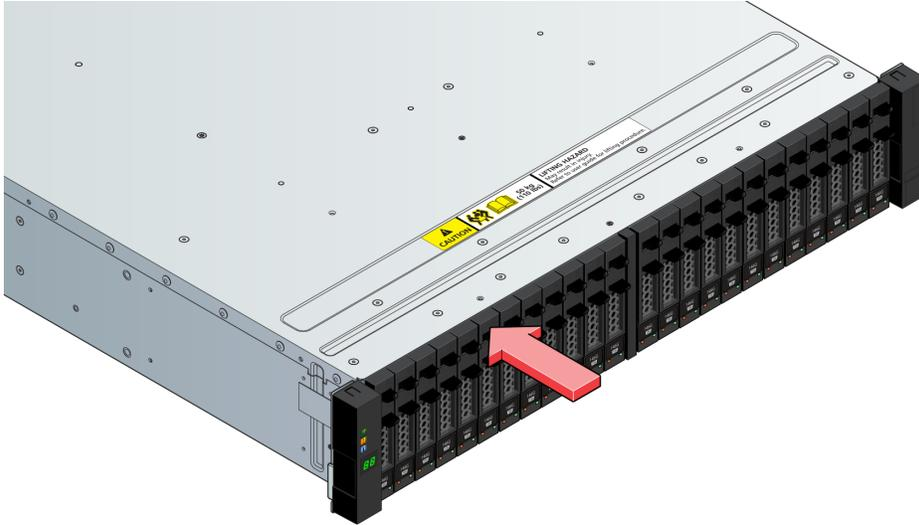

Figure 84. Installing a 2.5” Drive Carrier Module (2)
3. Cam the carrier home. The camming lever on the carrier will engage into a bay in the enclosure. Continue to push firmly until the handle fully engages. A click should be heard as the latch engages and holds the handle closed (see Figure 84 “Installing a 2.5” Drive Carrier Module \(2\)” on page 83).